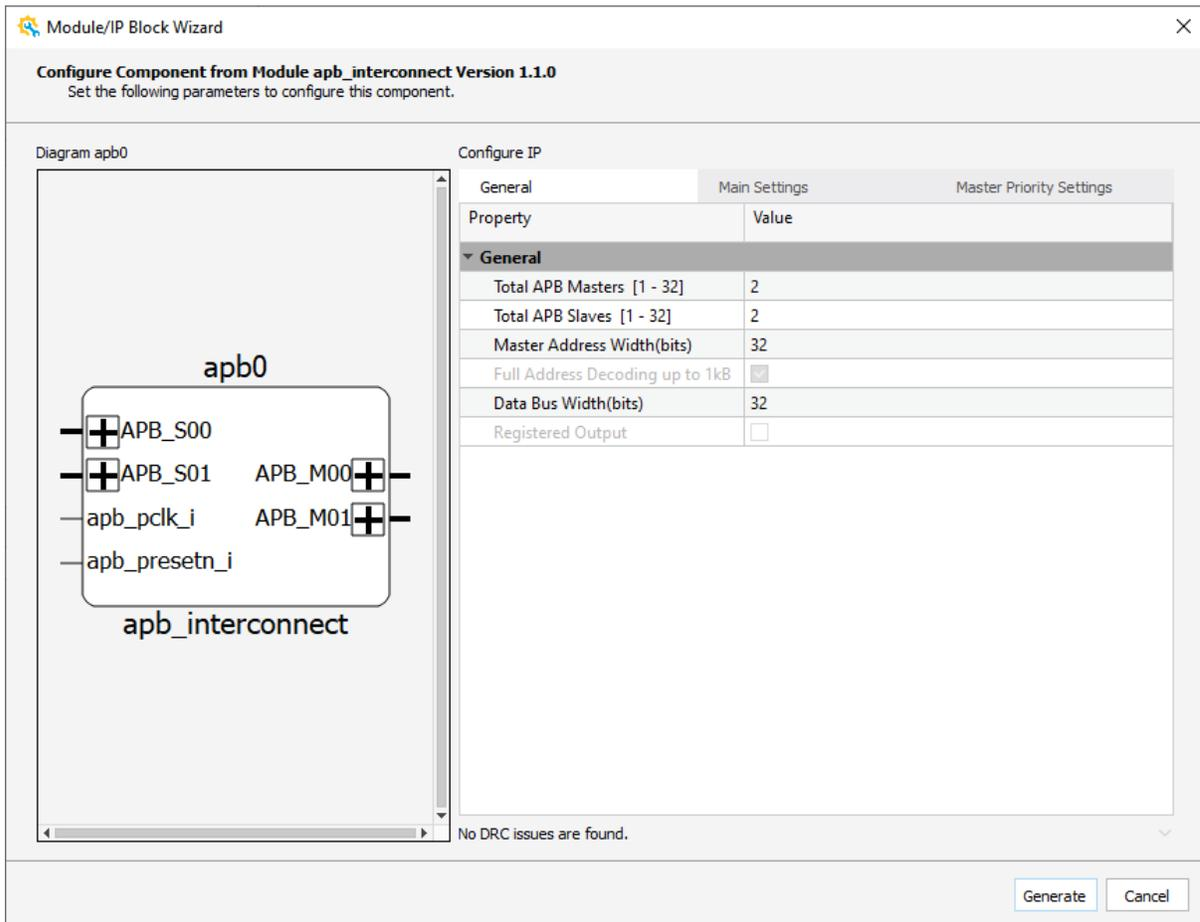

Figure 2.39. Module/IP Block Wizard – Configure Component
1. Double-click the module, or right-click the module you want to reconfigure. Choose **Reconfig**. The Module/IP Block wizard (Figure 2.39) opens.